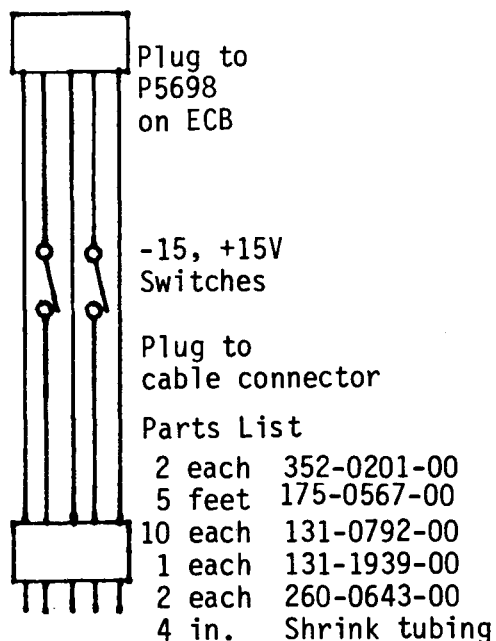

Figure 1
2. Construct a fixture as shown in Figure 1. This fixture can then be inserted in series with the connection at P5698, and will provide the ability to disable the RCU supplies.